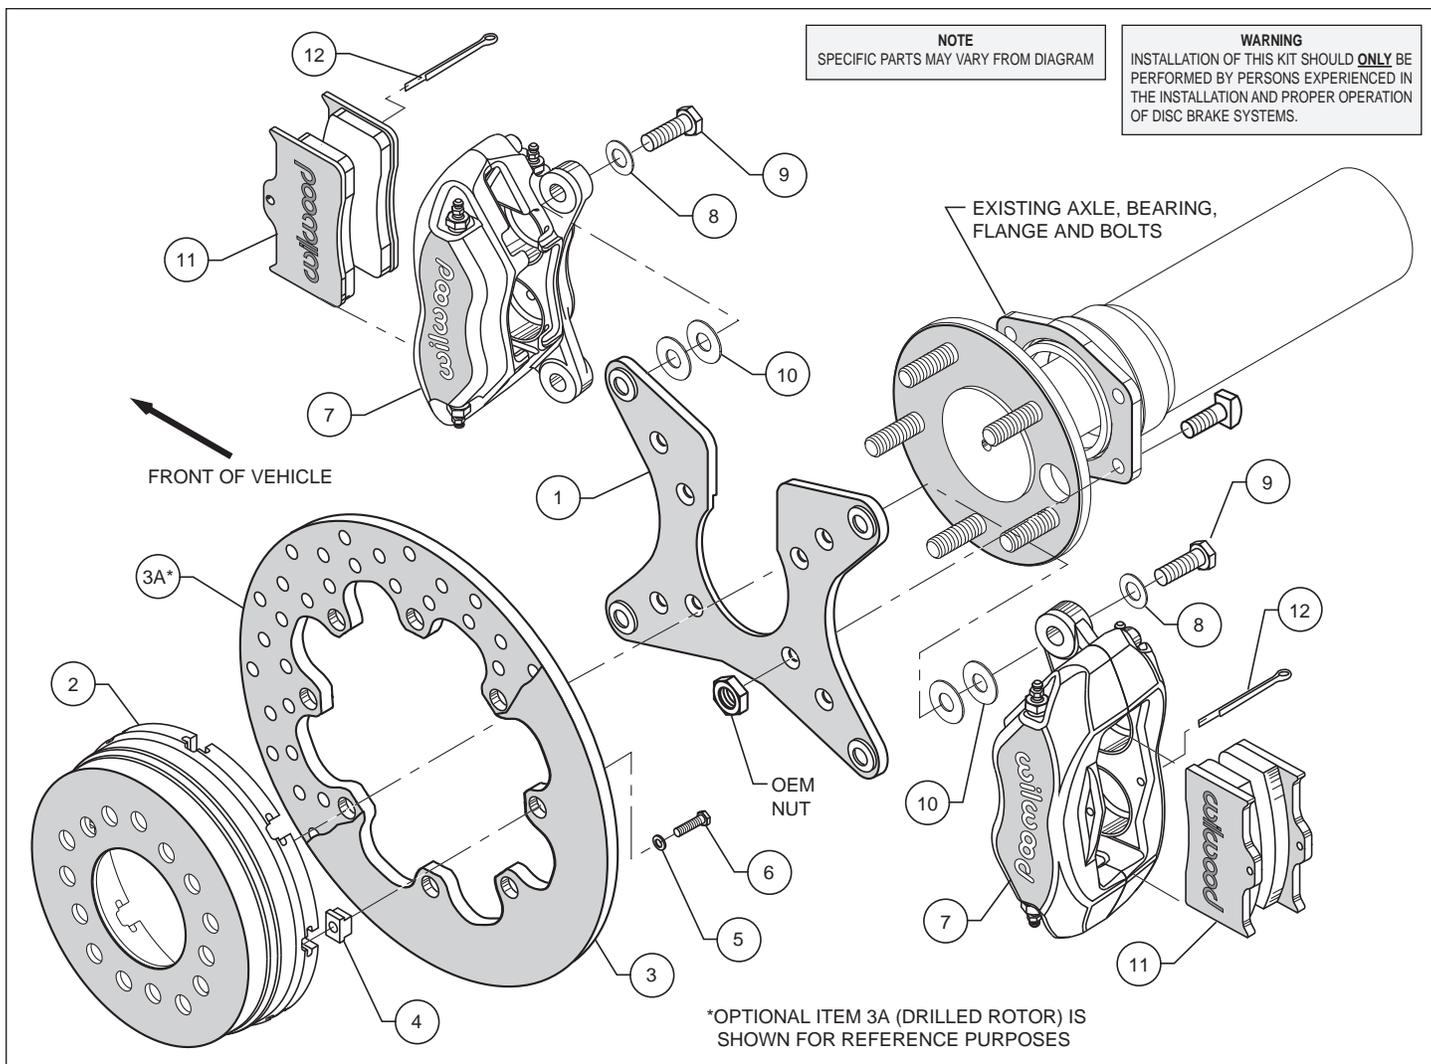
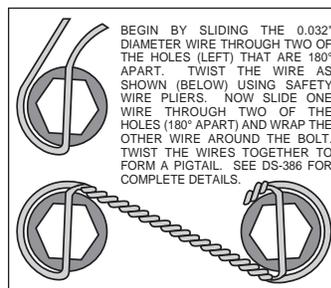
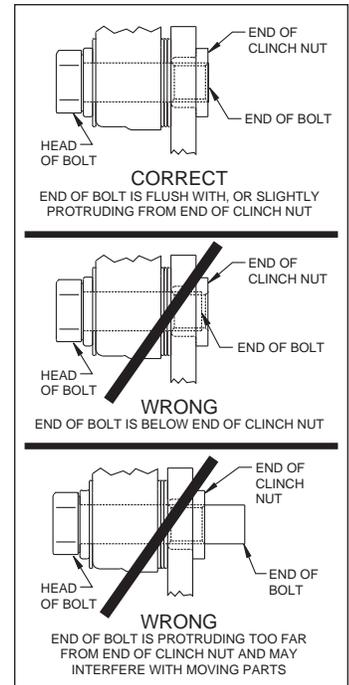

Figure 1. Typical Installation Configuration
Figure 4. Safety Wire Diagram
Figure 5. Clinch Nut Engagement Diagram
Assembly Instructions (numbers in parenthesis refer to the parts list and Figure 1 on the preceding pages): **CAUTION:** All mounting bolts must fully engage clinch nuts. Be sure to check that all bolts are either flush or protruding through flanged side of clinch nut after shimming, Figure 5.
- Install the caliper mounting bracket (1) with the slot for the axle pointing upward to the housing flange using the OEM bolts and nuts, as shown in Figure 1 and Photo 2. Ensure that the caliper mounting ears on the bracket are oriented fore and aft on the car, with the heads of the clinch nuts facing outboard, Photo 2. Apply red *Loctite*® 271 to the OEM bolt threads and torque to OEM specifications.
- The rotor (3) has a flat side and an inset side. Mate the hat (2) to the flat side of the rotor, Photo 3. Slide the T-nuts (4) into the “T” slot in the hat, Photo 4. Attach the rotor to the hat using bolts (6) and washers (5), as shown in Figure 1 and Photo 5. Finger tighten. One at a time using an alternating sequence, insert T-nut tool (supplied in the bolt kit) into the slot between the T-nut and the hat, up to the flat spot on the T-nut tool shaft. Remove bolt, apply red *Loctite*® 271 to the threads, and torque to 198 in-lb., Photo 6. Safety wire bolts using standard .032 inch diameter stainless steel safety wire, as shown in Figure 4. Please refer to Wilwood’s data sheet DS-386 (available at www.wilwood.com/Pdf/DataSheets/ds386.pdf) for complete safety wire installation instructions. **NOTE:** Reference Wilwood data sheet DS-440 (supplied with this document) for additional information on T-nut installation.
- Align the correct hole pattern in the hat (2) with the axle stud pattern and slide the hat/rotor assembly onto the axle hub. **NOTE:** The hat must fit flush against the axle flange or excessive rotor run out may result. Install three lug nuts (finger tight) to keep the hat/rotor in place while continuing with the installation, Photo 7. **NOTE:** Some OEM and aftermarket axles come with stud sizes larger than 0.50” diameter. Verify stud size, and if necessary, have a qualified machine shop drill the hats to the correct size.
- **NOTE:** Please reference the caution statement at the beginning of the assembly instructions. Mount one caliper (7) onto the caliper mounting bracket (1) using bolts (9) and washers (8), as shown in Figure 1. Initially place two .032” thick shims (10) on each bolt between the caliper and the bracket, Photo 8.
Temporarily tighten the mounting bolts and view the rotor (3) through the top opening of caliper. The rotor should be centered in the caliper, Photo 9. If not, adjust the caliper by adding or subtracting shims between the bracket and the caliper. Always use the same amount of shims on each of the two mounting bolts. **NOTE:** *The end of each bolt must be flush with or slightly protruding from the head of the clinch nut.* If necessary, place spare shims between washer and caliper mounting ear to achieve the proper clinch nut engagement, as shown in Figure 5. Once the caliper alignment and clinch nut engagement are correct, remove the bolts one at a time, apply red *Loctite*® 271 to the threads, and torque to 30 ft-lb. Safety wire the bolts as shown in Figure 4. Repeat this procedure for the second caliper.